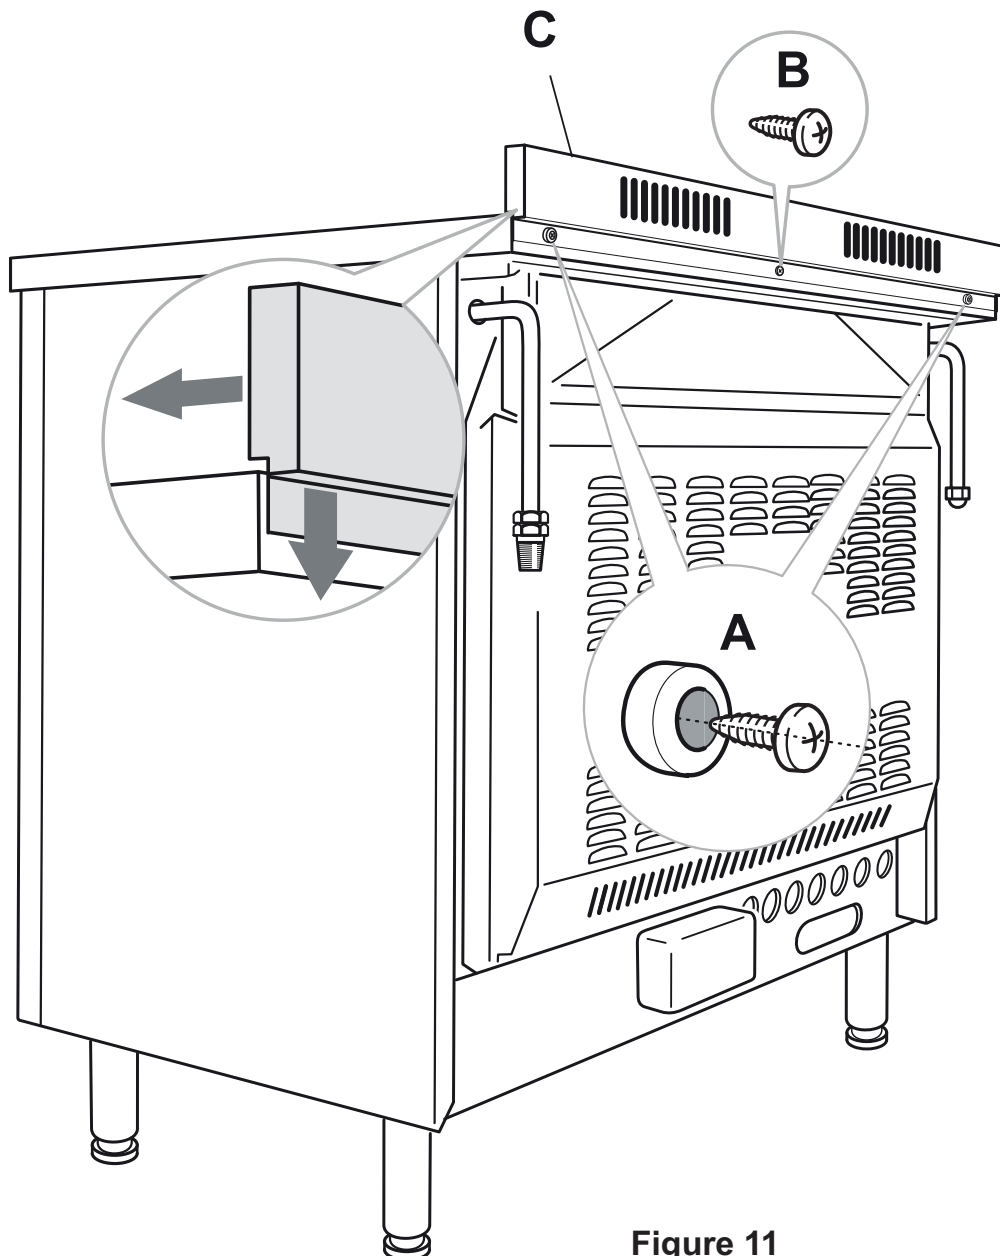

Figure 11
Before installing the cooker, assemble the backguard **"C"** (fig. 11).
- Assemble the backguard as shown in figure 11 and fix it by screwing the central screw **"B"** and the spacers **"A"**.